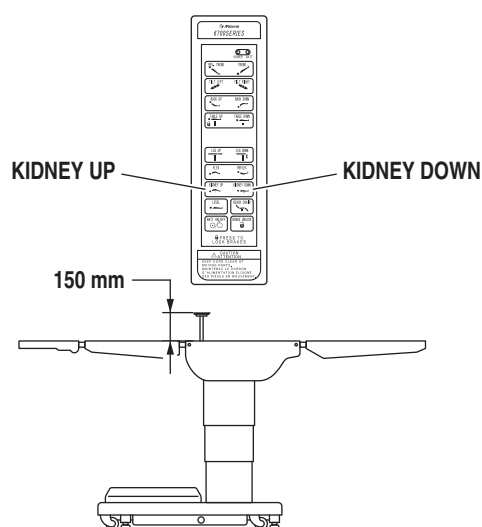

Figure 2-13. Kidney Lift Positioning
**h. Kidney Lift** To raise the built-in kidney lift, press the KIDNEY UP button (figure 2-13). Up to 6 inches of lift can be achieved. Press the KIDNEY DOWN button to lower the kidney lift.